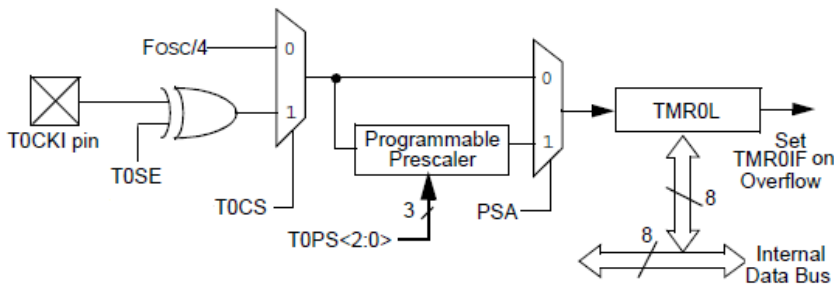

Fig. 71 TMR0 schematic in 8-bit mode.
8. Replace the external CLK configuring the embedded TMR0 (Fig. 71 in 8-bit mode) to obtain the same 96 Hz step frequency.